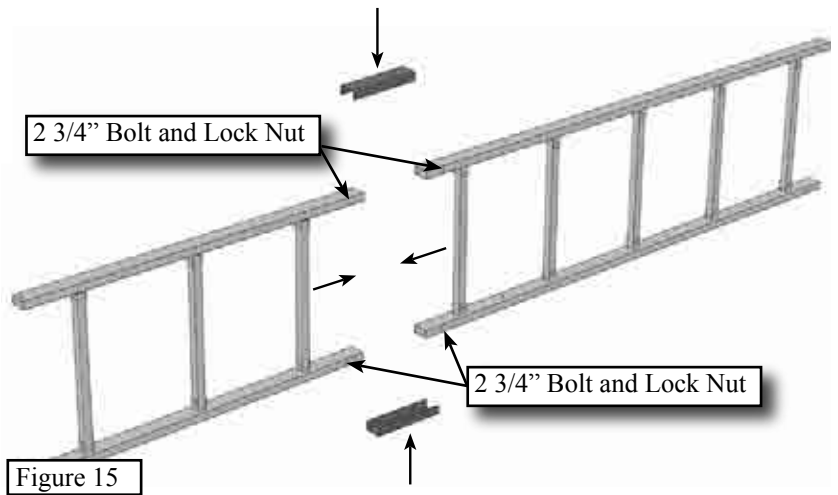

Figure 15
Step 6. Arrange the upper and lower ladder support columns as shown in **Figure 15**. Line up the holes and lay one coupler plate across the joint. Bolt together using two 2 3/4" long bolts and lock nuts.